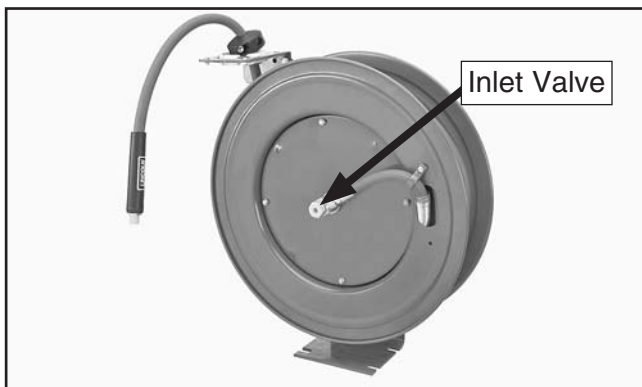

Figure 3. Location to connect incoming air hose.
4. Remove the plastic plug from the inlet valve (see **Figure 3**), apply Teflon pipe tape or thread sealant to the threads of the incoming air hose (not included), then connect it to the inlet valve.